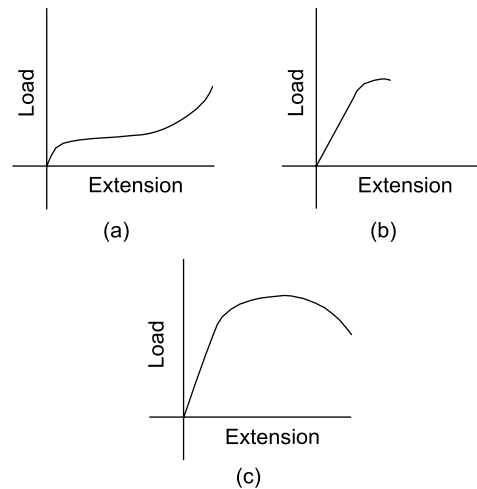

Figure 3.10
- (a) A typical load/extension curve for an elastic non-metallic material is shown in Figure 3.10(a), and an example of such a material is **polythene**.
- (b) A typical load/extension curve for a brittle material is shown in Figure 3.10(b), and an example of such a material is **cast iron**.
- (c) A typical load/extension curve for a ductile material is shown in Figure 3.10(c), and an example of such a material is **mild steel**.